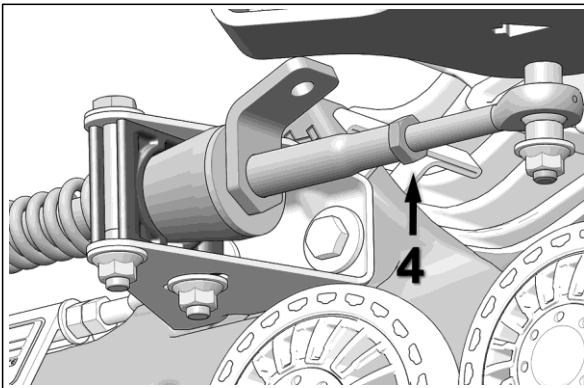

Figure 16
- Re-tighten jam nut (4) to 40 N•m [30 lb•ft] of torque when adjustment is complete. See Figure 16.